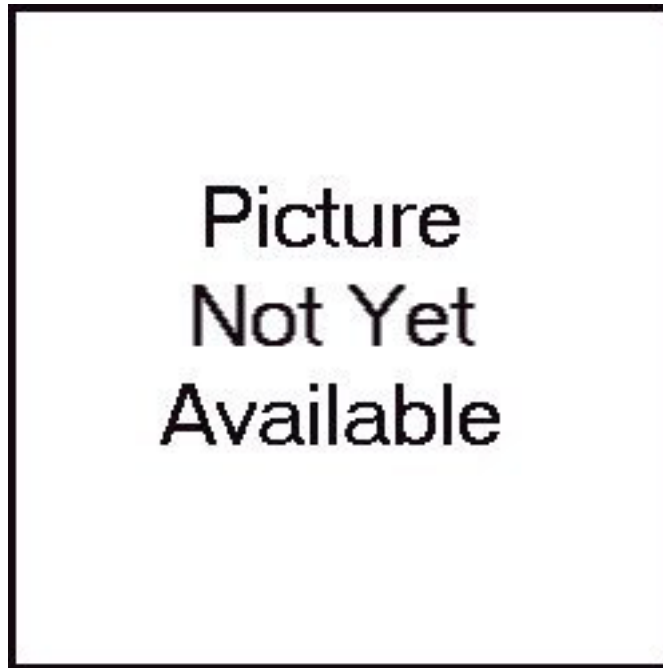
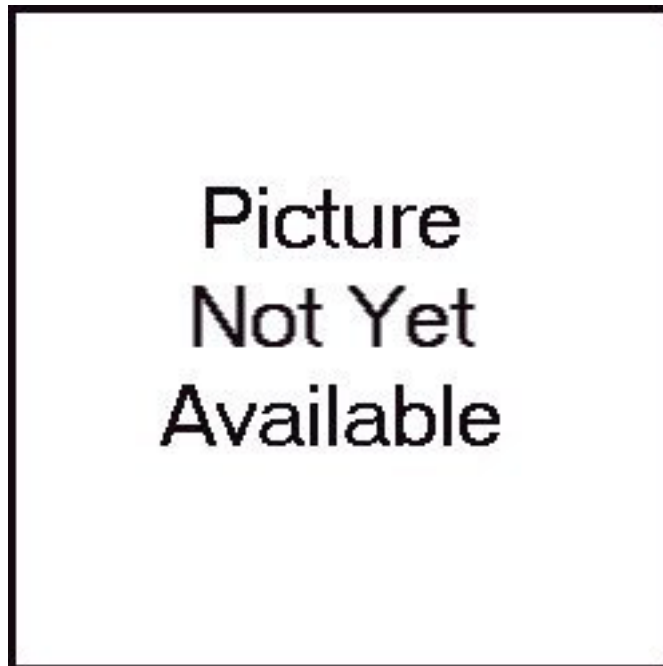

Figure 11 - Aligning the Weatherstrip to the Body
Figure 12 - Adhering the Weatherstrip Tabs
4.1 Weatherstrip. This can be the most difficult part of the installation, but the following method worked well for the author. Determine the center of the bottom of the window opening and the bottom of the weatherstrip (mark with tape). Apply a thin, even coat of weatherstrip adhesive to the bonding surface of the weatherstrip and the body, again using a plastic or wooden tool. Allow to dry. Apply a second thin coat of adhesive to the bottom center section of the weatherstrip (approximately 12 inches either side of center). Working from the center of the bottom of the window opening, line up the weatherstrip, fitting the top of the weatherstrip flush with the body surface (Figure 11). Press the weatherstrip to the body, continuing to apply a thin coat of adhesive to small sections. Work slowly. After the weatherstrip is in place around the opening, apply a thin coat of adhesive to the "tabs" (Figure 12) on the sides and the corresponding body location. Let dry, then apply a second thin coat of adhesive to the "tabs" and attach them to the body.